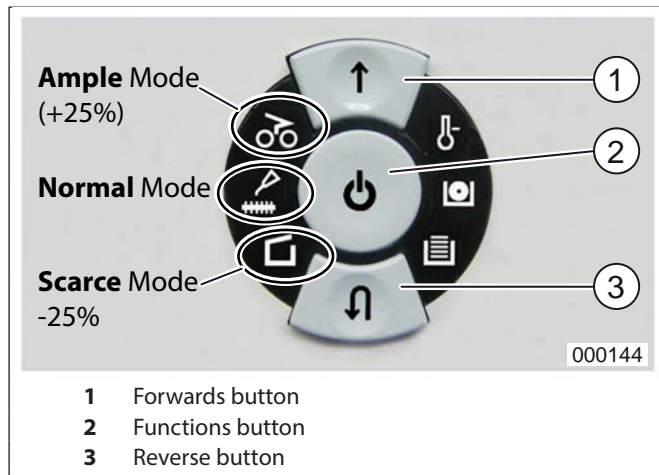

fig.5 Customization of automatic oiler output
3. Press and hold the forward button (fig. 5/1) and the reverse button (fig. 5/3) simultaneously.
4. Additionally press and let go of the function button (fig. 5/2).
6. Press the forward button **twice** (fig. 5/1).
7. Press the function button (fig. 5/2) so often until the needed oiler output mode comes on.
8. Press the reverse button (fig. 5/3).
If you want to continue shredding turn the machine on: press the function button (fig. 5/2) briefly.